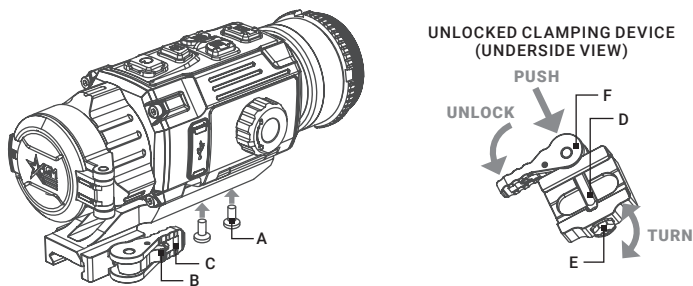

FIGURE 2-8. MOUNT
A Picatinny/Weaver mount is secured to the Rattler-C V² with two screws (Fig. 2-8, A). The recommended tightening torque for the fixing screws is 4-5.3 Nm (5.44-7.2 ft lb).
1. Unlock the clamping device of the clip-on mount by pushing down on the lever holder (Fig. 2-8, B) and unlocking the lever (C).
2. Install the clip-on on the Picatinny/Weaver rail so that the stop (D) slides into the transverse slot on the rail.
3. Affix the clip-on to the rail by locking the lever (C).
2. With the clamping device unlocked (as shown in Figure 2-8), push the cam (F) towards the arrow, which will cause the nut (E) to slide out of its hole.
3. To tighten/ loosen the clamping device, push down on the cam (F) and turn the nut (E) CW/ CCW respectively, in one-two increments (see note below). Much like when the cam (F) is released, backward-moving spring will cause the nut (E) to slide back into its hole.